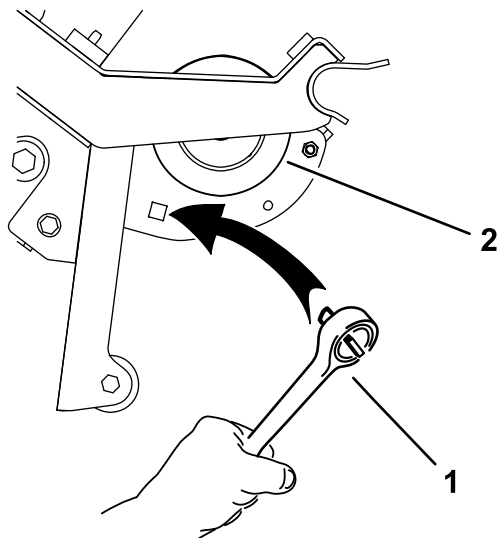

Figure 18
**Note:** You can use a drive ratchet (1/2 inch) to move the left idler pulley for the blower (Figure 18).